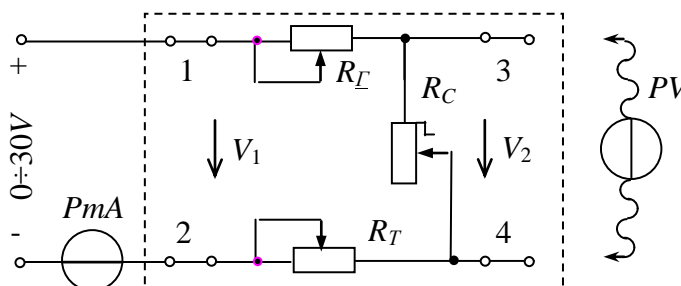

Fig. 1.10
3. Collect the circuit (fig. 1.10) and connect it to the clamps $\langle - \rangle$ $\langle 0 \div 30 \text{ V} \rangle$. Place *LATR* switch in position $\langle - \rangle$, $\langle 0 \div 30 \text{ V} \rangle$.
5. Set the voltage across clamps 1–2 $V_1 = V_{loc}$ and maintaining it constant during the experiment ($V_1 = \text{const}$), change the resistance R_c turning it from 2 to 10 positions. Write down the results of measuring to the table 1.2, items 2-10.
The name and the purpose of the work. Homework – the calculation of the circuit. The schematic diagram of the investigated circuit (fig 1.10). The table 1.2.